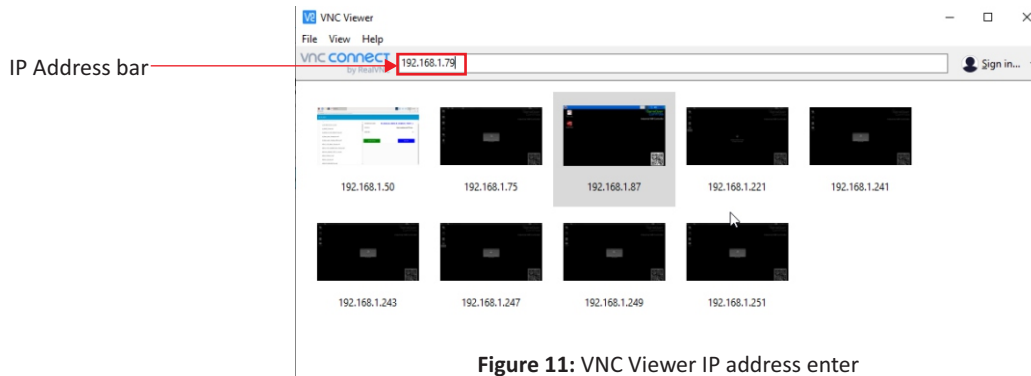

Figure 11: VNC Viewer IP address enter
3. Open VNC Viewer on PC and type the IP address of CPU module on to address bar according to Figure 11. Then press 'Enter'.